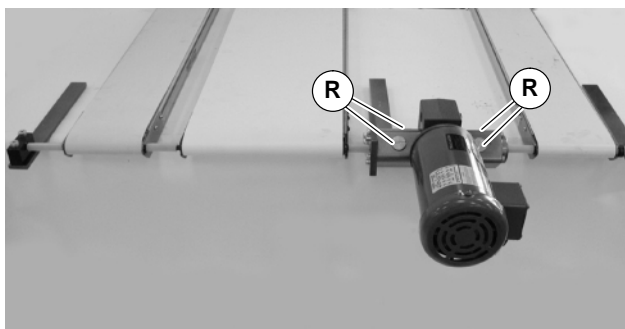

Figure 31
1. Remove inspection plugs (R of Figure 31).